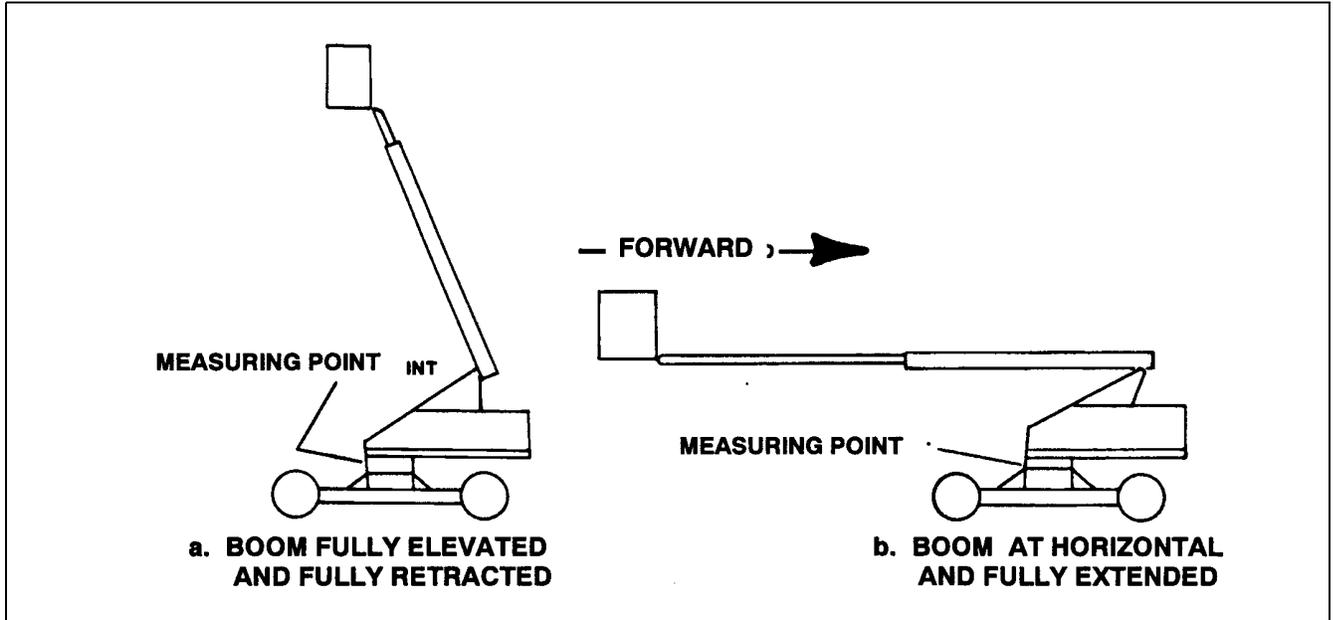

Figure 2-32. Swing Bearing Tolerance Boom Placement.
- b. At the position indicated on "a" of Figure 2-32, try to insert a .0015 feeler gauge between the bolt and hardened washer at the arrow indicated position.
- b. At the position indicated on "b" of Figure 2-32, try to insert the .0015" feeler gauge between the bolt head and hardened washer at the arrow indicated position.